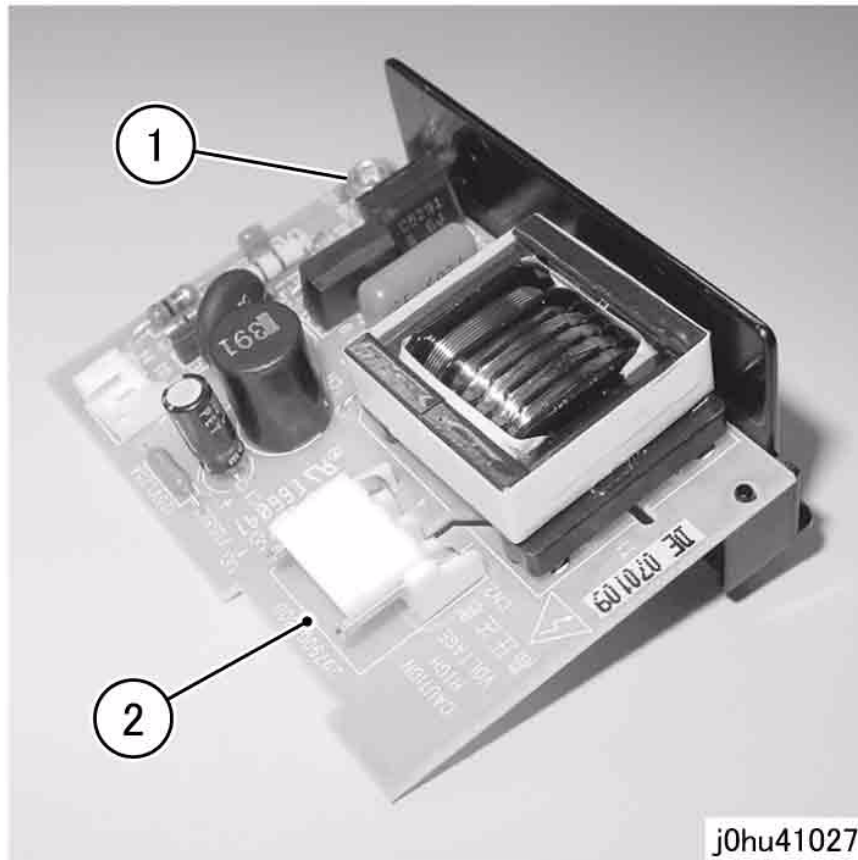

Figure 4 Remove Inverter PWB from Bracket 1
6. Remove the Inverter PWB from Bracket 1 (Figure 4).